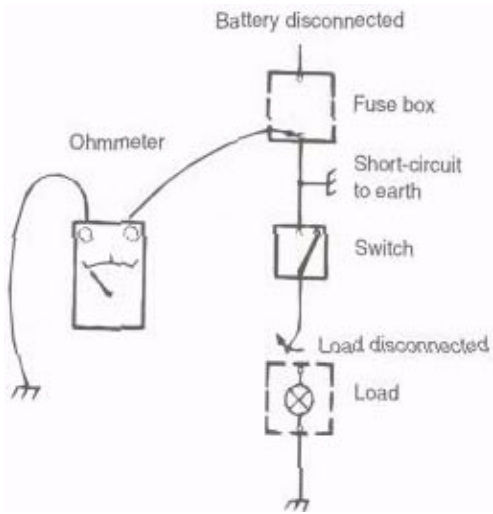

Fig. 5. Ohmmeter being used to find short circuit.
3. Using an ohmmeter, connect one test lead to the load side of the fuse terminal (terminal leading to the circuit) and the other test lead to ground. See Fig. 5.